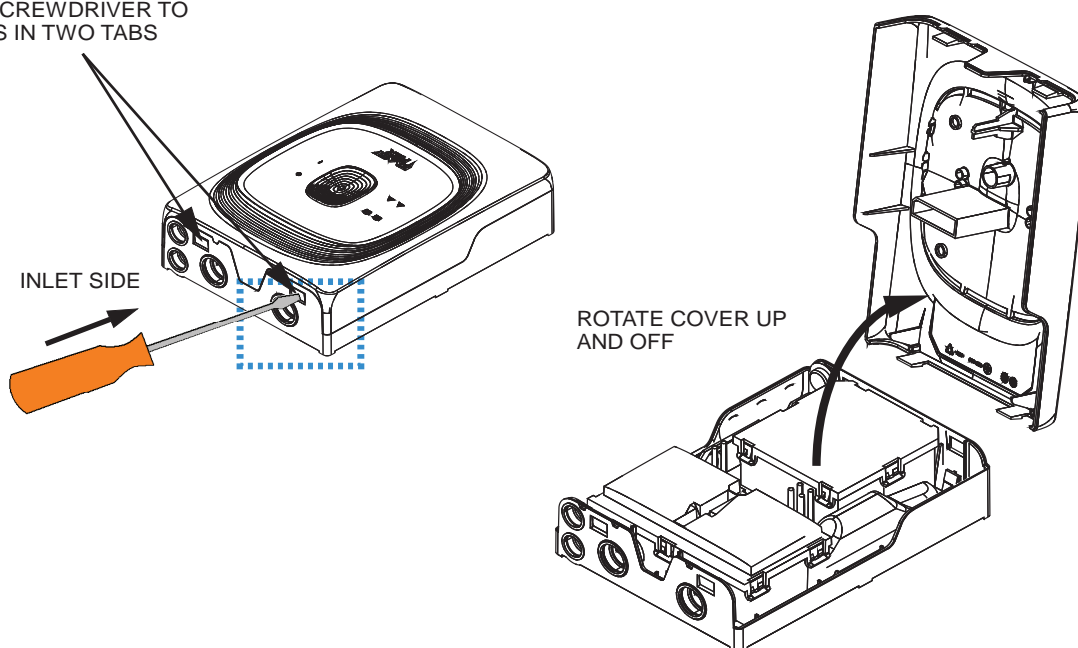

Figure 3-4: Removing the Cover
1. Using a small screwdriver or other suitable tool, press in the two tabs **on the inlet side** of the FAAST FLEX (see Figure 3-4).
4. Remove the cover as shown in Figure 3-4.